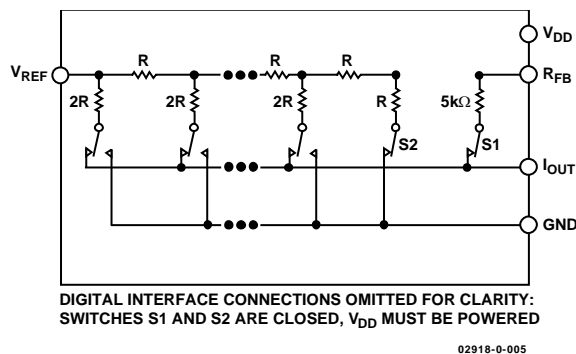

Figure 17. Equivalent R-2R DAC Circuit
The DAC architecture uses a current-steering R-2R ladder design. Figure 17 shows the typical equivalent DAC. The DAC contains a matching feedback resistor for use with an external I-to-V converter amplifier. The  $R_{FB}$  pin is connected to the output of the external amplifier. The  $I_{OUT}$  terminal is connected to the inverting input of the external amplifier. These DACs are designed to operate with either negative or positive reference voltages. The  $V_{DD}$  power pin is used only by the logic to drive the DAC switches on and off. Note that a matching switch is used in series with the internal 5 k $\Omega$  feedback resistor. If users attempt to measure the  $R_{FB}$  value, power must be applied to  $V_{DD}$  to achieve continuity. The  $V_{REF}$  input voltage and the digital data (D) loaded into the corresponding DAC register, according to Equation 1 and Equation 2, determine the DAC output voltage.